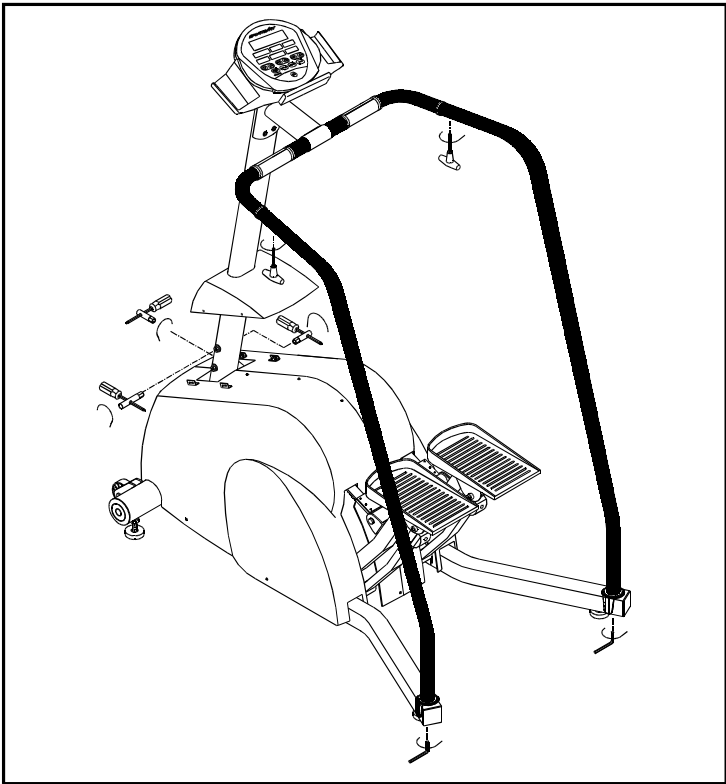

Fig.4-1
7. Tighten all screws on the upright frame, rear base and central handlebar using the screw driver, socket and L-handled Hex Allen key provided. (see Fig.4-1)